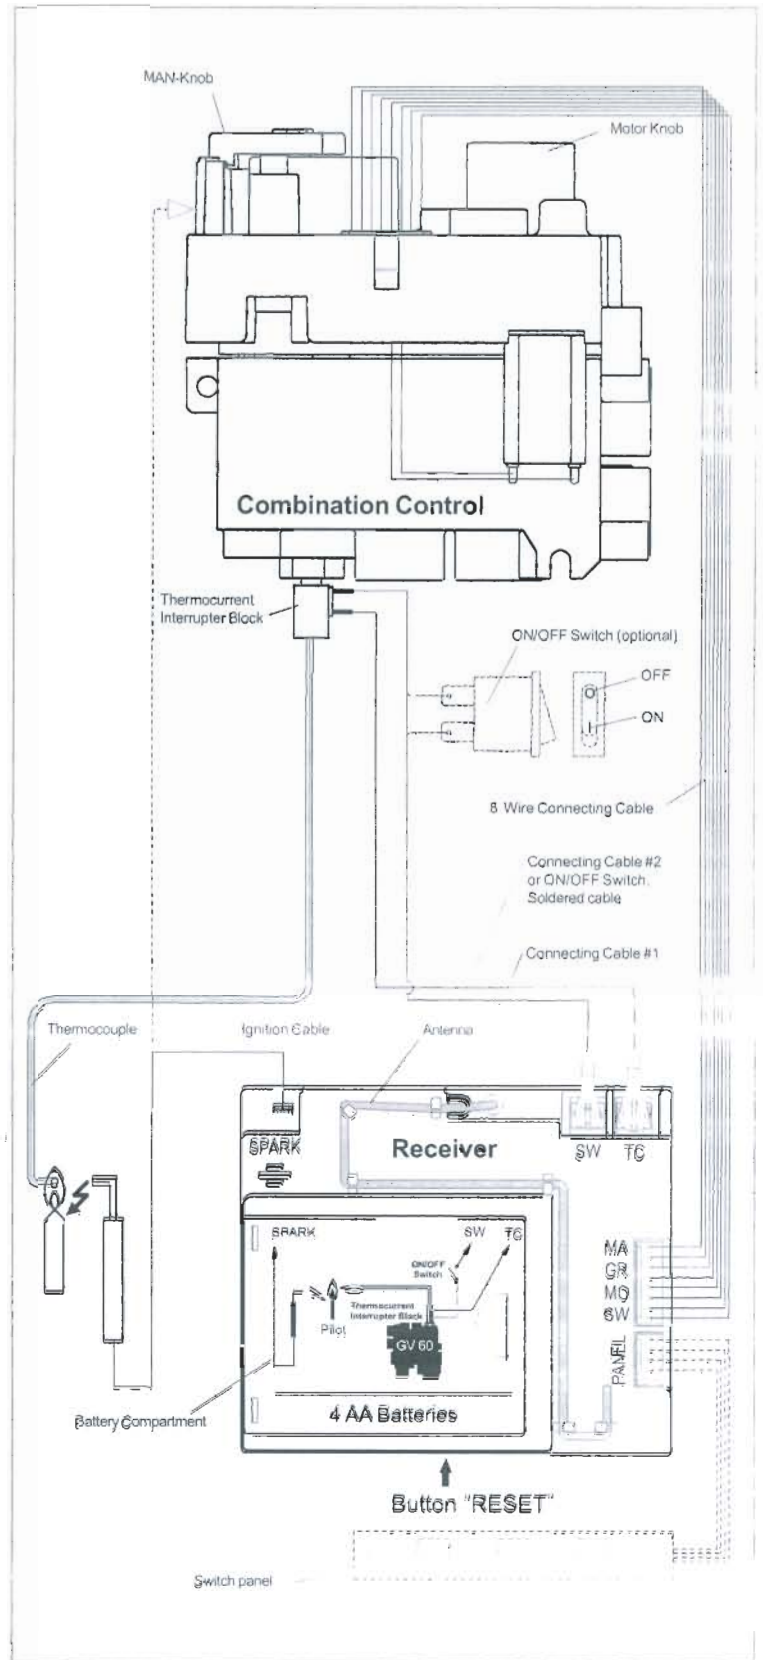

Figure 9: Wiring Diagram
### Connection - Thermo Circuit (Figure 9)
### Connection - Ignition cable (Figure 9)
- If used, connect 5 wire switch panel cable to receiver (Figure 9).